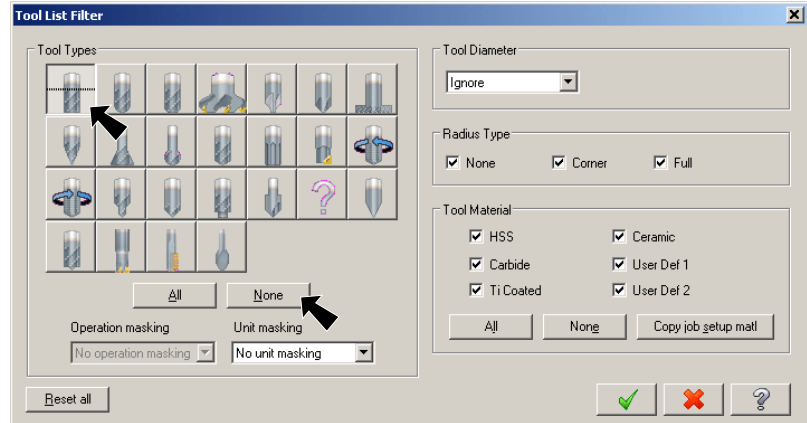

Fig. 40
Step 12. Click **None** under Tool Types **Fig. 40**.
Step 13. Click **Endmill1 Flat** button (first button top row) and click OK **Fig. 40**.